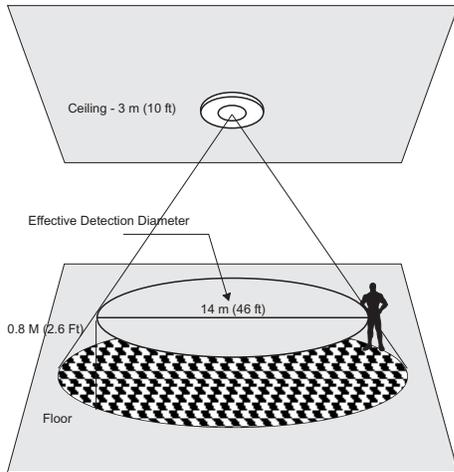
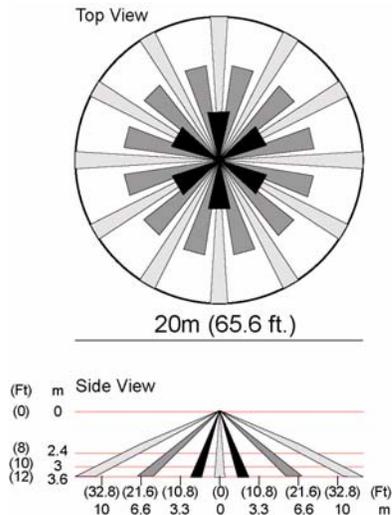

Figure 3 EN1265 detection diameter
Figure 4 EN1265 lens pattern
- The EN1265 can be mounted to a maximum height of approximately 12 feet (3.6 meters). As mounting height increases, distance between detection zones also increases toward the perimeter, and the effects of factors such as floor surface temperature and intruder direction and speed are intensified. This can contribute to reducing speed of detection. Every installation should include a walk test of detection zones, including intrusion paths crossing the edges of the zones. See Figure 3 and Figure 4 for more information.